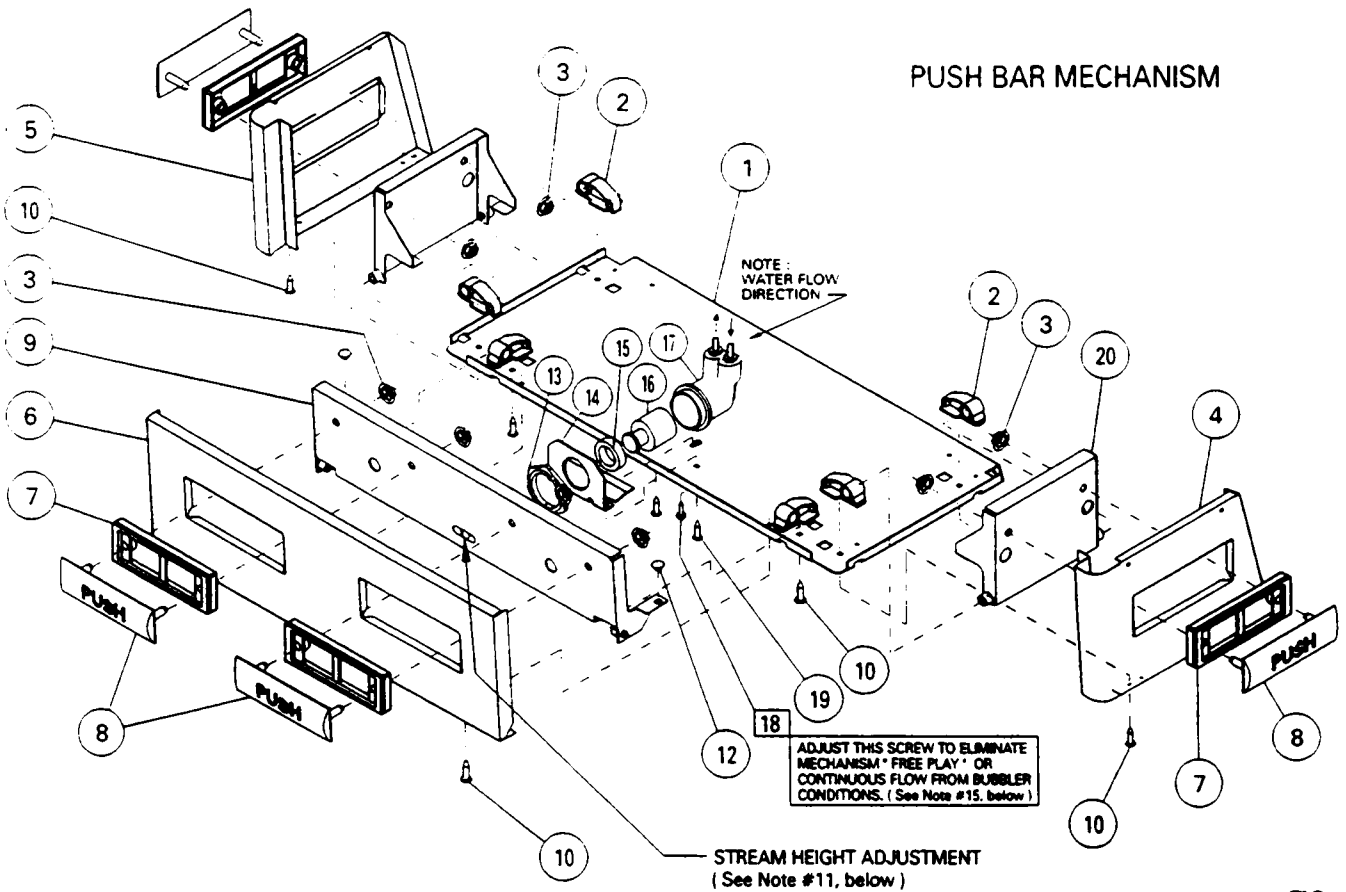

FIG. 4
- 11). Stream height is factory set at 45 - 50 PSI. If supply pressure varies greatly from this, readjust stream height to approximately 1-1/2" above the bubbler guard by turning adjustment screw, accessible by removing front push panel, Item No. 6 (see Fig. 4 and Fig. 5).
- 14). Replace the front panel and secure by re-tightening four (4) screws.